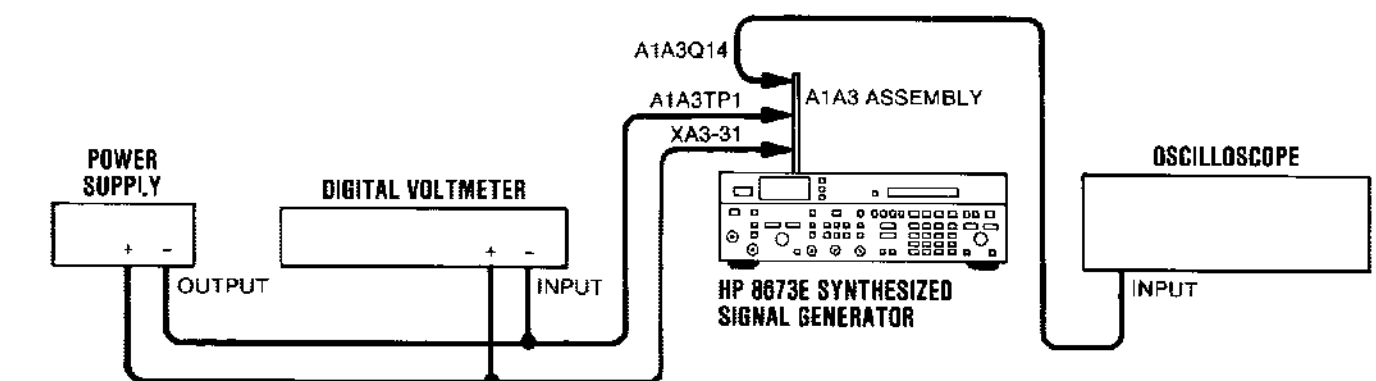

Figure 8-127. Unleveled Detector Test Setup
13. Connect the test equipment as shown in Figure 8-127.